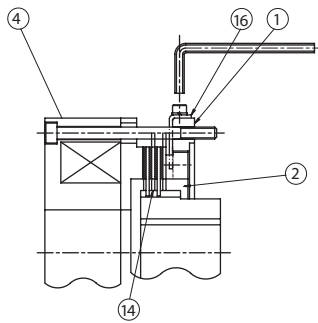

Figure 8-19
- (1) Manually release the brake following the procedure on P90.
- (2) Loosen the stopper [16] on the periphery of the center ring [1], and remove. This will free the gap adjusting screws [2]. (See Figure 8-19)